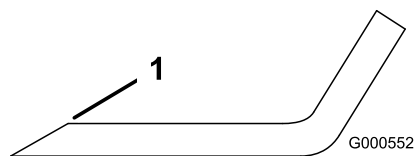

Figure 65
1. Use a file to sharpen the cutting edge at both ends of the blade (Figure 65).
Note: If the blade is not balanced, file some metal off the end of the sail area only (Figure 65).